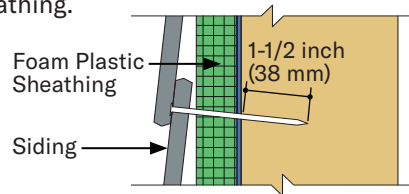
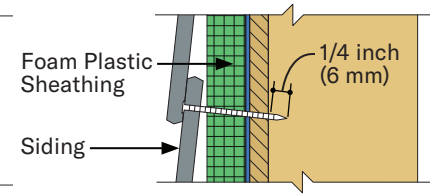

Figure 5a
Figure 5b
- Increase nail length to ensure a min. 1-1/2 inch (38 mm) penetration into studs, or combination of studs and WSP sheathing (Figure 5a), or WSP sheathing only attachment. (Figure 5b)